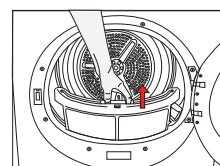

Fig5
- 2.Remove the cover filter by pulling it up and open the filter(Fig5,6).